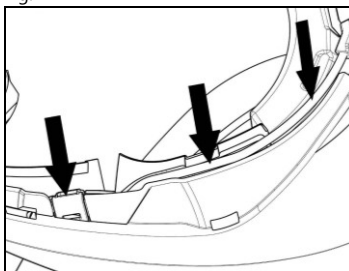

Fig. 14
- Fix the cable inside the helmet and make sure the right fixing clip snaps into its housing (Fig. 14).